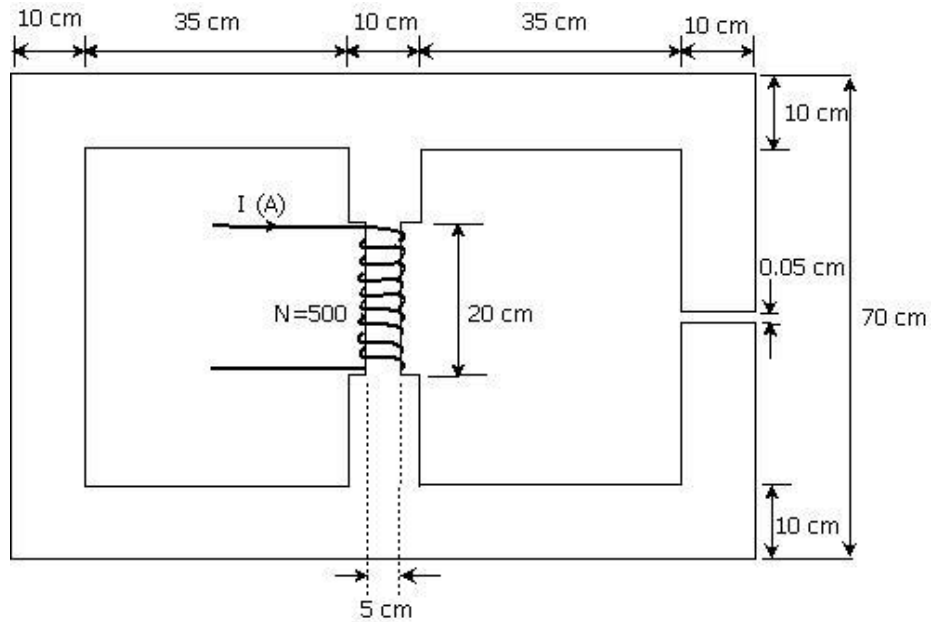

Figure 1 : Ferromagnetic core
1. A ferromagnetic core is shown in Figure 1. The depth of the core is 10 cm. The other dimensions of the core are as shown in the figure. The relative permeability of the core is 1000. Assume that fringing in the air gap increases the effective cross-sectional area of the air gap by 5 percent. If the current in the coil is 1.0 A,
- (i) Draw the equivalent magnetic circuit of the ferromagnetic core as shown in Figure 1.